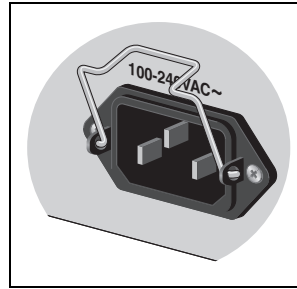

Figure 30. Power Cord Retaining Clip in the Up Position
1. Position the power cord retaining clip in the up position, as shown in Figure 30.